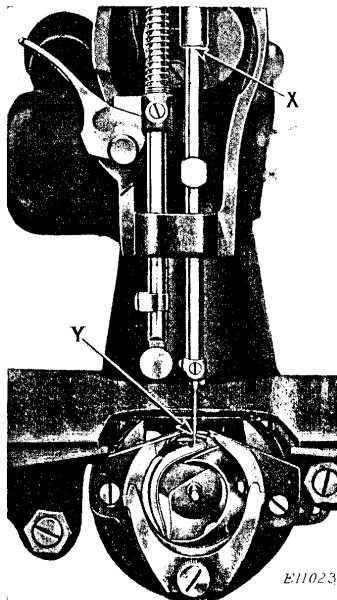

FIG. 19. SHUTTLE TIMING
Turn balance wheel over toward you until the **lower** mark is just visible at the lower end of the needle bar bushing as shown at (X, Fig. 19), when needle bar is on its upward stroke. When the needle bar is in this position, turn the new shuttle driver on oscillating shaft to bring the point of the new shuttle to centre of needle as shown at (Y, Fig. 19). **While setting shuttle point at centre of needle, make certain that the end of the cushion spring (B, Fig. 24) is not compressed by the heel of the shuttle (A, Fig. 24), toward or against the lower end of the shuttle driver.**
In case the position of the needle bar bushing has been disturbed, turn the balance wheel toward you until the point of the shuttle is at the centre of the needle and a scant  $\frac{1}{16}$  inch above the top of the needle eye. Loosen screw (B) and move bushing up or down until its lower end is even with the **lower** timing mark at (X, Fig. 19). Tighten screw (B). See timing instructions on page 24.